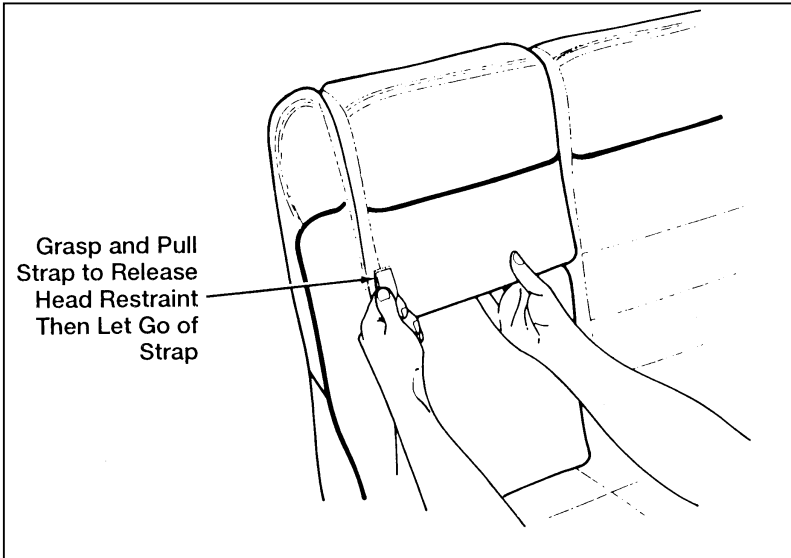

Figure 3: Releasing the child safety seat head restraint
1. To release the head restraint, grasp the pull strap and pull toward you (approximately one inch), which will allow you to insert your hand at the bottom of the head restraint, as shown in Figure 3.